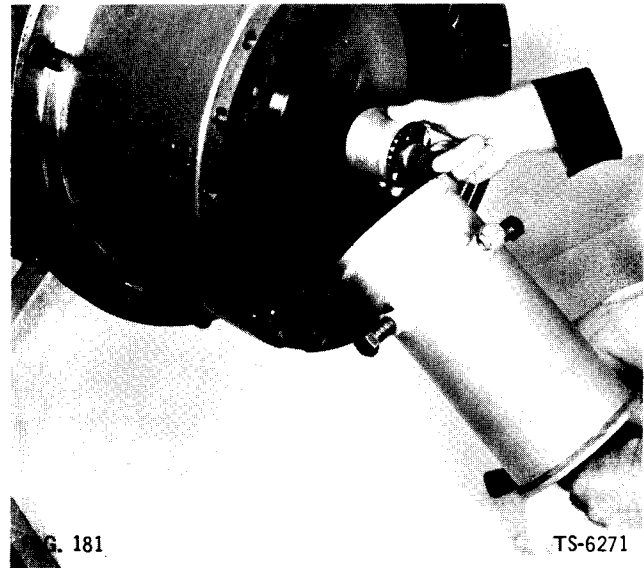

FIG. 181
26. Install inner spindle nut on spindle. Wrap several turns of .010 inch to .020 inch shim stock around splines of axle shaft to protect splines. Install spindle nut socket wrench, Part No. 945940, on nut (Fig. 181) and tighten guide bolts lightly against axle shaft.